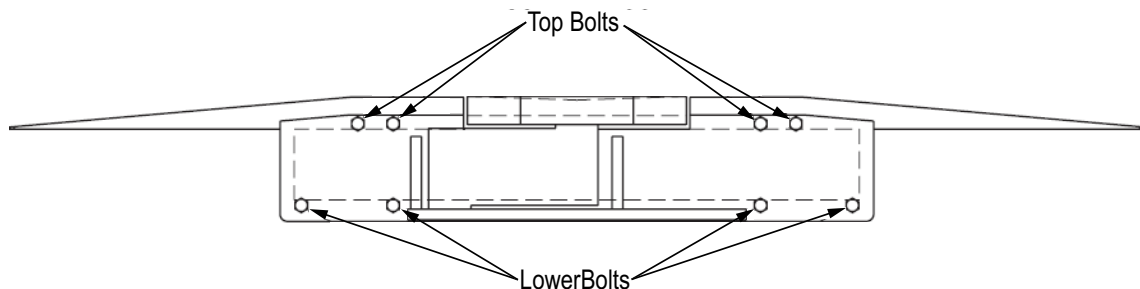

Figure 2-3. Top and Lower Bolts of Scale Mounting Bracket
2. Loosen the four top bolts (Figure 2-3 on page 10) of the scale bracket.
3. Remove the four lower bolts (Figure 2-3 on page 10) of the scale bracket.